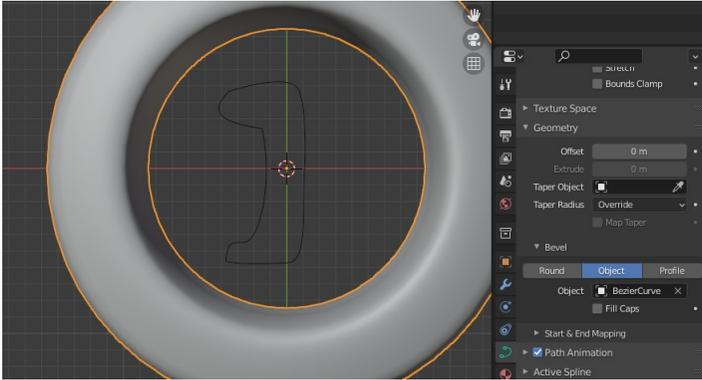

Figure 3-3 Profile along the length of a Curve using an Object for the Bevel
form the shape. My rail section is visible in the center of Figure 3-3.
3. In order to make the ring solid you need to join the ends up using **Curve ▸ Toggle Cyclic**. When you are happy with the profile, still in Edit mode, position and rotate the curve so the outside half of the profile is to the left of the Y axis and the inside half to the right, as in Figure 3-3.
4. To make one curve use the a different curve as a profile, you need to specify it as a Bevel. In Object mode select the Bézier circle and in the Object Properties tab open Geometry then Bevel and select **Object** then choose the Bézier curve, shown on the right of Figure 3-3.